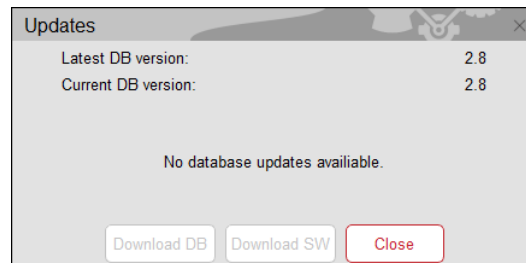

Figure 9: Database Update Window after Update
Follow similar steps by clicking "Download SW" to download and install the latest software version. To confirm that the latest database (DB) has been successfully updated, reopen CompleteArchitect™ and click *Tools -> Check for DB Updates* from the menu. Confirm that the DB update window indicates that *No updates available* as shown in Figure 9.